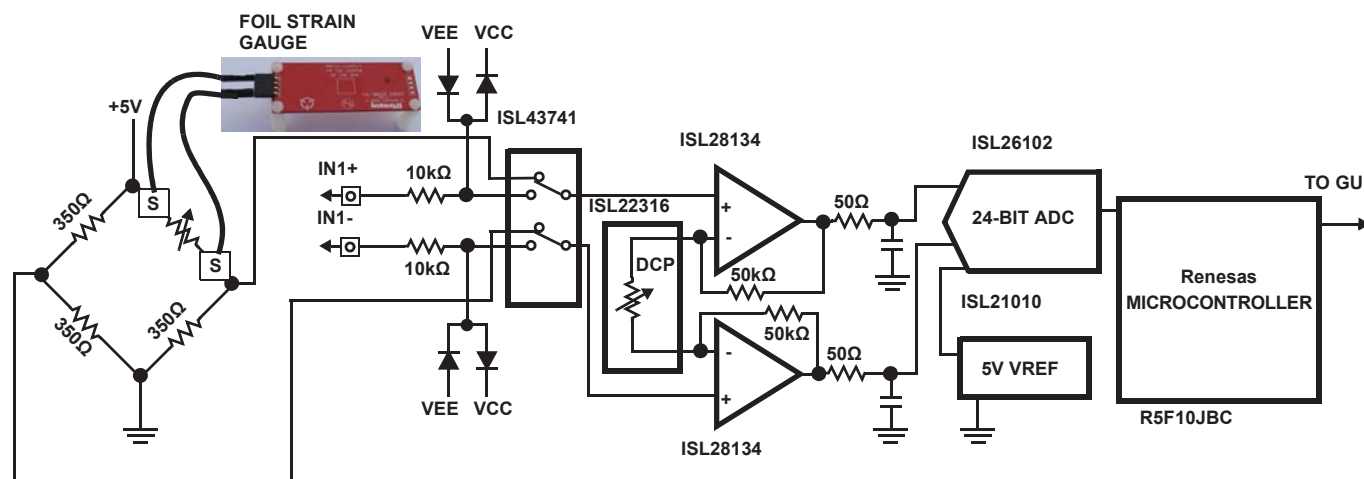
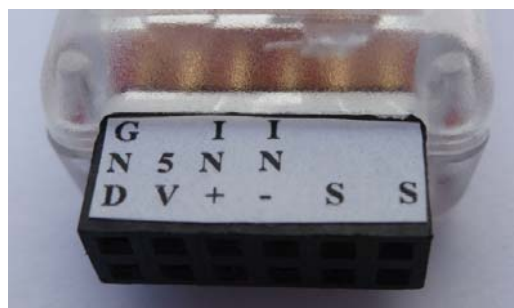
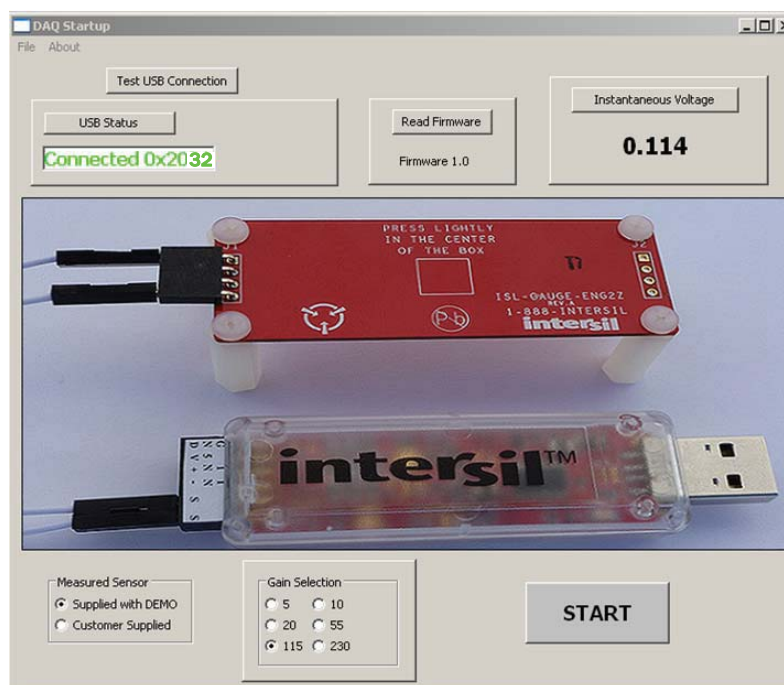
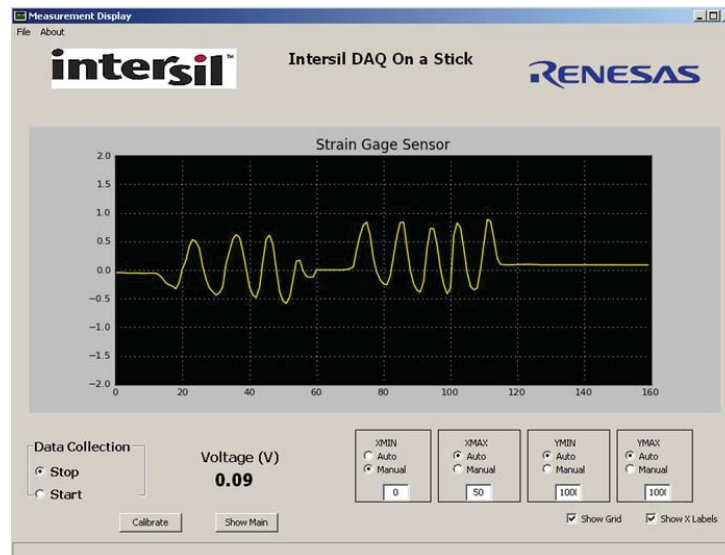

FIGURE 2. SIMPLIFIED STRAIN GAUGE SCHEMATIC
FIGURE 4. SENSOR CONNECTOR
FIGURE 5. GUI START-UP SCREEN
FIGURE 6. GUI MEASUREMENT SCREEN
Figure 2 shows a simplified schematic of the Strain Gauge design. The design uses Intersil’s ISL28134 chopper amplifier, ISL22316 Digitally Controlled Potentiometer (DCP), ISL43741 differential mux, ISL21010 4.096 voltage reference, the ISL26102 24-bit delta sigma converter and Renesas R5F10JBC microcontroller.
The green LED on the DAQ on a Stick board should be on at this time. When the software starts, the DAQ Startup screen shown in Figure 5 will appear. With the DAQ on a Stick connected, the USB Status indicator will display "Connected 0x2032". The assigned HID code for this application is 0x2032. This is verification the software is communicating with the board.
From the DAQ Start-up Screen (Figure 5), the user can click on the Instantaneous Voltage button to get a single voltage reading, select the sensor input they want to measure and adjust the gain of the amplifier, or click the Start button to go to the Measurement Display screen, as shown in Figure 6. At this point the green LED on the board will go off.
The ISLRE-BDGSTKEV2Z reference design gives the user the option to measure the strain on a foil gauge (supplied with the evaluation board) or connect their own sensor and monitor the voltage reading on the GUI screen. The user will select the "Sensor Supplied with the Demo" or "Customer Supplied" sensor by clicking the appropriate radial button at the bottom of Figure 5. The foil gauge is the default value in the GUI with a gain
of 115V/V. Figure 4 shows the external connector inputs, which are used to connect the sensor to the circuit shown in Figure 2.
2. Connect the opposite end of the wires to the far edges of the foil gauge board. Reference Figure 5.
1. To connect a user supplied sensor, plug the wires into the IN+ and IN- ports shown in Figure 4, then select the "Customer Supplied" option, as shown in Figure 5. This will cause the ISL43741 differential mux to switch the inputs. Once the customer supplied option is selected, the user will have the option of changing the amplifiers' gain for the best measurement.
Figure 6 shows the Measurement Display screen. From this screen, the user can stop and start data collection, adjust the minimum and maximum X & Y axis and go back to the set-up screen by clicking on the Show Main button. A calibrate button is provided to zero out the voltage reading when the board is not under strain. This helps to give an accurate reading from time zero, and is required because the board does not always return to the same deflection point after a strain is applied to the board.